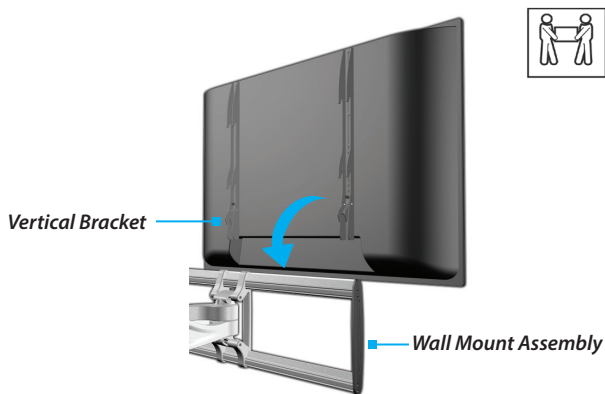

Figure 8
1. Lift and **Hang** the **TV** on the **Wall Mount Assembly**. (Figure 8)